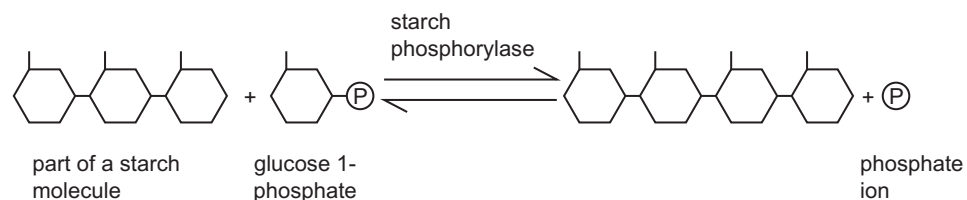

Fig. 3.1
- (b) Phosphorylase enzymes can catalyse the synthesis of starch **and** the breakdown of starch in some plant tissues. A reaction catalysed by starch phosphorylase is shown in Fig. 3.1.